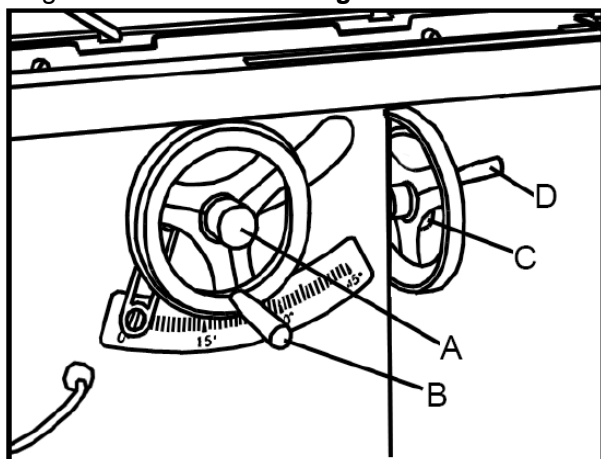

Fig.21
To raise or lower the blade, loosen lock knob (A) As Fig. and turn the raising handwheel (B). When desired height is obtained, retighten lock knob. The blade should be raised 1/8" to 1/4" above the top surface of the material being cut. With hollow ground blades the blade should be raised to the maximum to provide chip clearance. To tilt the saw blade, loosen lock knob (C) and turn tilting handwheel (D). When desired angle is obtained, retighten lock knob. See **Fig.21**.